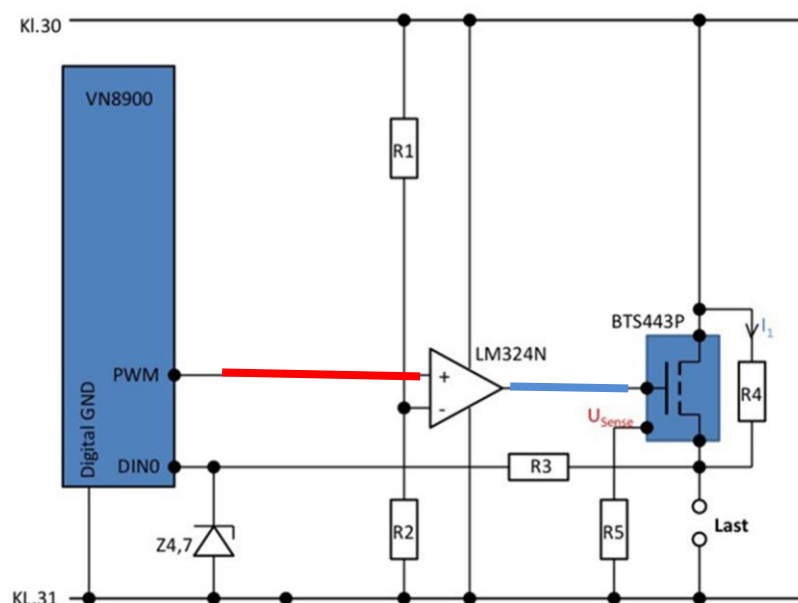

Figure 1: Electric circuit of the seat heating's control
Figure 1 shows the control circuit of the heating resistor as well as the VN8900 that you already know. Please search for information concerning the power switch used here, as well as for the operation amplifier.
d) Please highlight (in colours) the different voltage levels in figure 1.
h) Please specify the calculation formula for  $R5 = f(V_{bb}, I_{Last}, K)$  referring to figure 1.